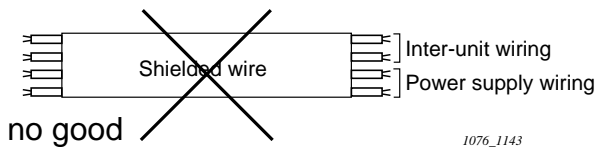

Fig. 2-2
3. Do not bundle the signal lines together with the power line or wire them with the same cable. (Fig. 2-2)